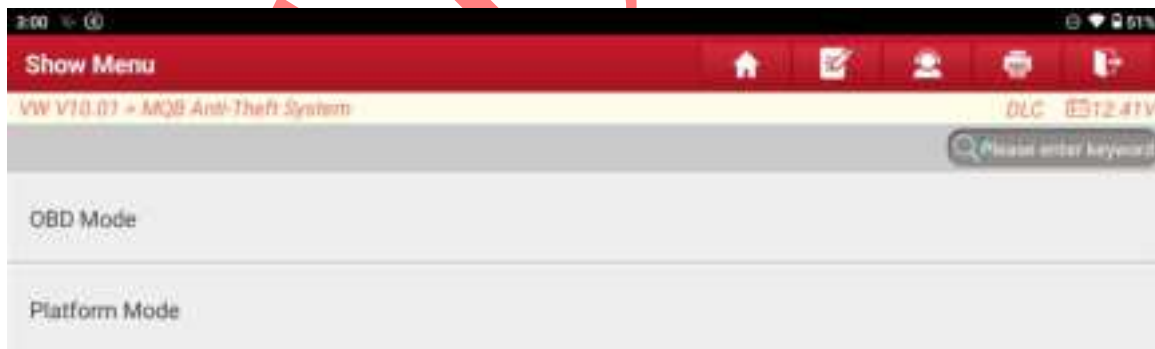

Figure 5
5. Choose [Platform Mode], as shown in Figure 5.